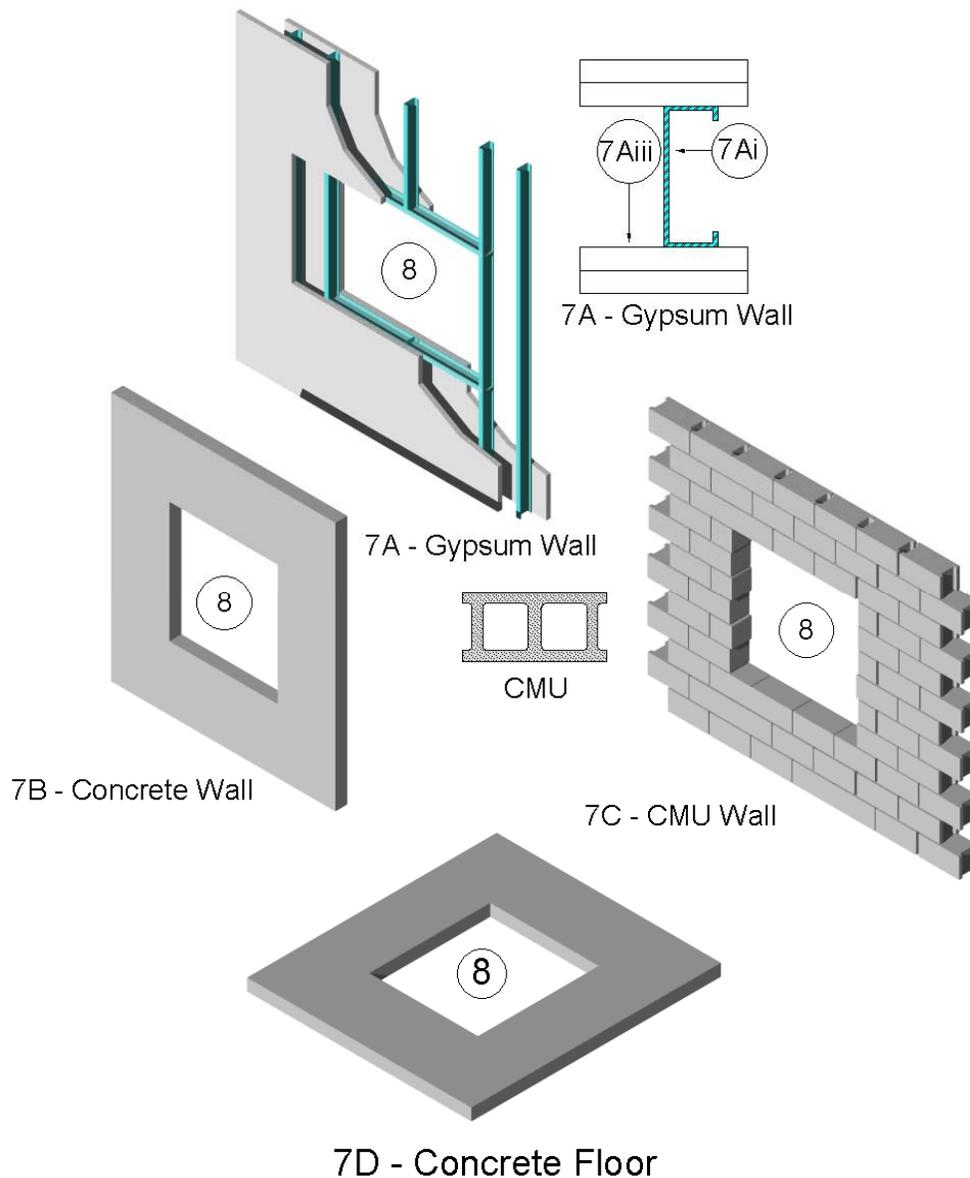

Figure 5 – Supporting Constructions
7. **SUPPORTING CONSTRUCTION:** Refer to Figure 5. Use one of the following wall or floor assemblies.